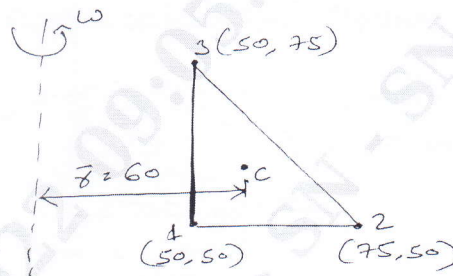

Fig.Q9(b)
b. For the element of an axisymmetric body rotating with a constant velocity $\omega = 1000 \text{ rpm}$ as shown in Fig.Q9(b). Determine the body force vector. Include the Weight of the material where the specific density is 7850 kg/m^3 .